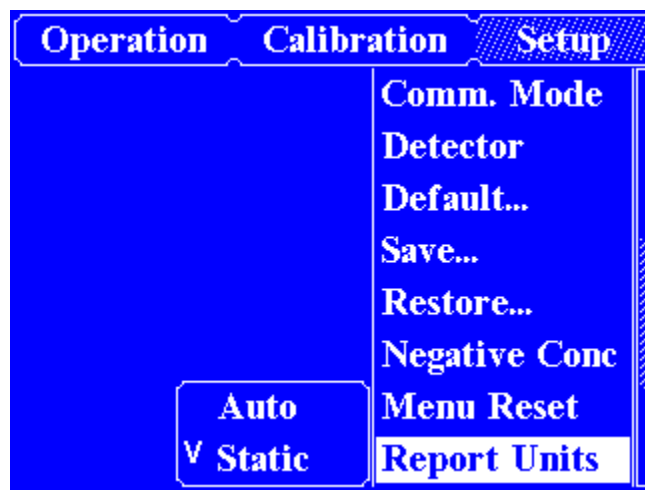

Figure 5-19. Report Units Setup Screen
2. Use ← key to high-light an item and press Enter to select it. See figure 5-19.